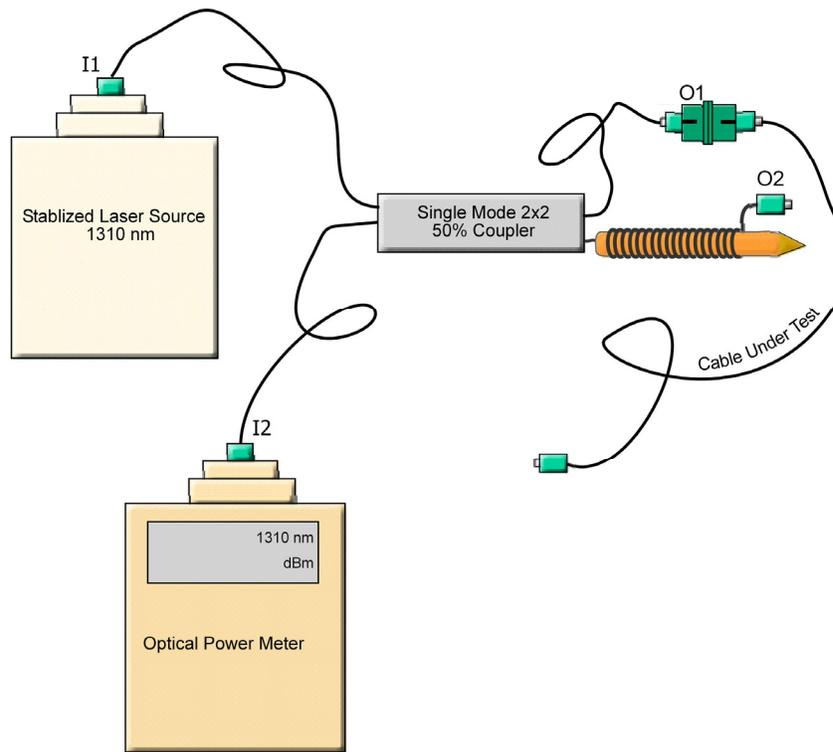

Figure 5-5. Test Procedure Connections
- Connect the laser to port **I1** of the coupler as shown in Figure 5-5.
- Connect the Power Meter to port I2 of the coupler as shown in Figure 5-5.